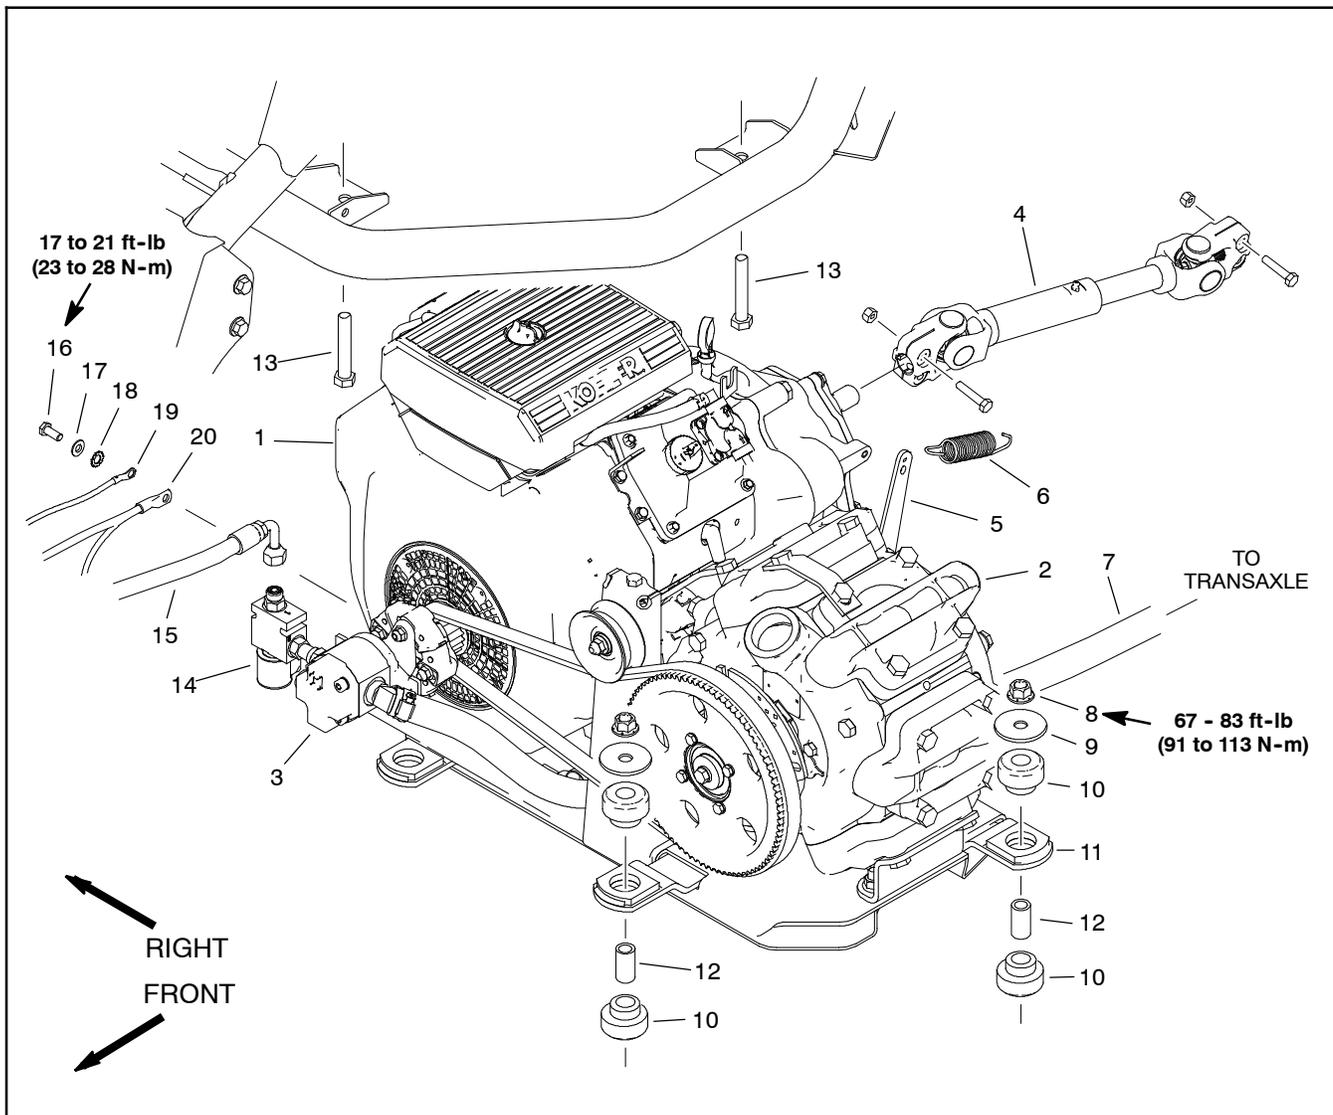

Figure 11
## Removal (Fig. 11)
- D. Disconnect battery negative (–) cable and machine wire harness ground at engine base (Fig. 11).
### Installation (Fig. 11)
- D. Connect battery negative (-) cable and machine wire harness ground to engine base (Fig. 11).